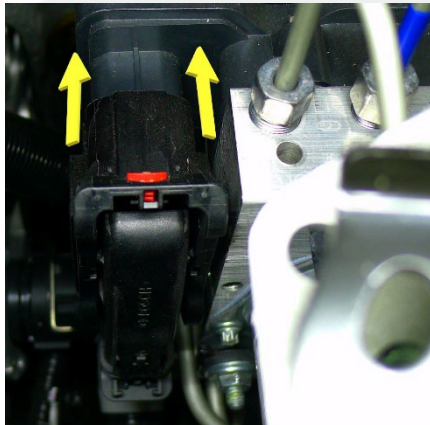
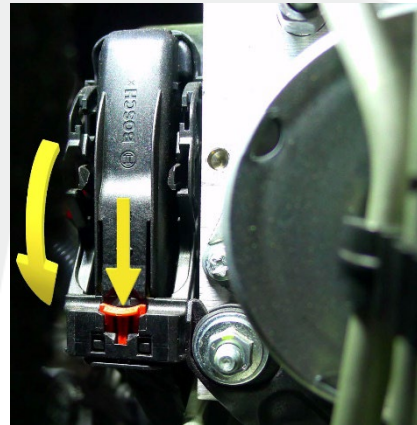

Figure 28
Figure 29
24. Attach connector X151 to the HCU (Figure 28), lower the lever, and then slide the red locking tab (Figure 29).